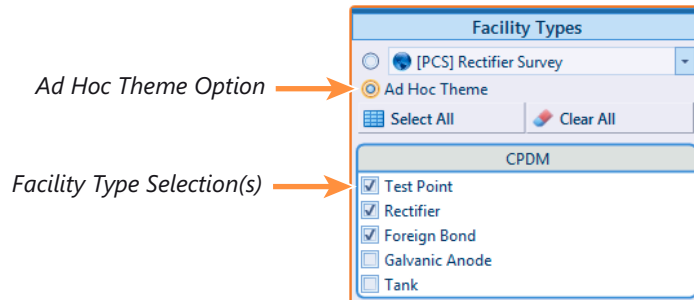

Figure 8-9. Ad Hoc Theme Option
- b To select multiple facility types, click the option button **Ad Hoc Theme** and then click the check box for one or more facility types, such as *Test Point*, *Rectifier*, and *Foreign Bond* (Figure 8-9, page 359).